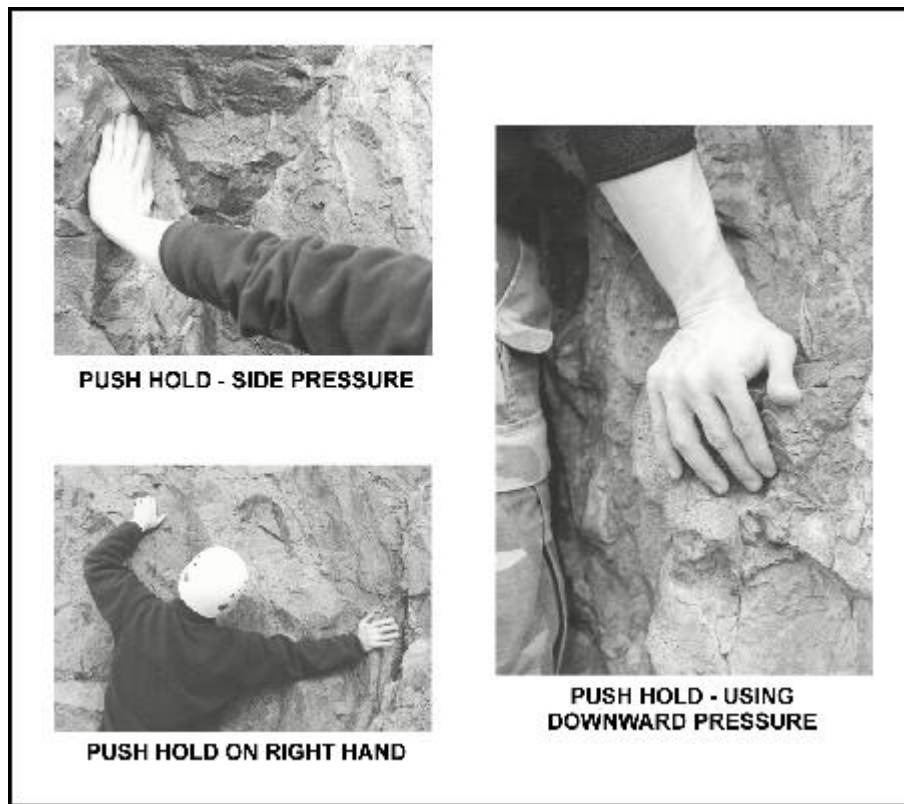

Figure 6-8. Examples of push holds.
(1) **Push Holds.** Push holds rely on the friction created when the hand is pushed against the rock. Most often a climber will use a push hold by applying "downward pressure" on a ledge or nubbin. This is fine, and works well; however, the climber should not limit his use of push holds to the application of down pressure. Pushing sideways, and on occasion, even upward on less obvious holds can prove quite secure. Push holds often work best when used in combination with other holds. Pushing in opposite directions and "push-pull" combinations are excellent techniques. (Figure 6-8 shows examples of push holds.)